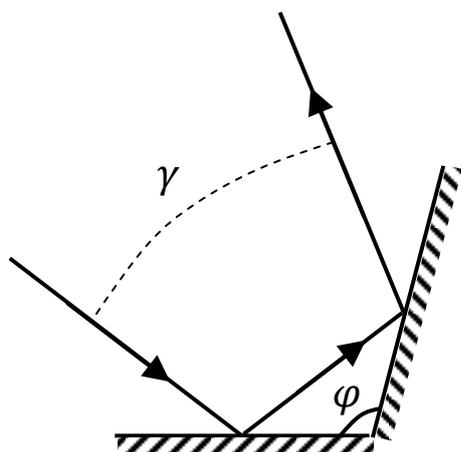

Figure 3: A light ray reflected from two mirrors.
- a. (0.4 pts.) A light ray is reflected from two mirrors which meet at an angle φ (Figure 3). Find the angle γ between the incoming and outgoing rays. Assume that all light rays lie in the plane perpendicular to the mirrors' intersection line.